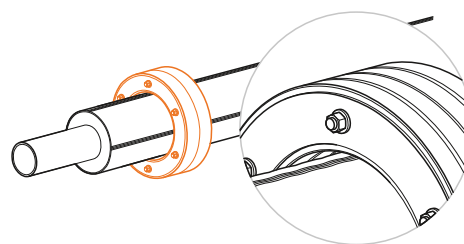

Fig. B6.4
4. Fit the Wall Compression Seal on the casing of the FibreFlex Pro pipe (Fig. B6.4). The Wall Compression Seal nuts must face the inside of the building unless access is restricted.